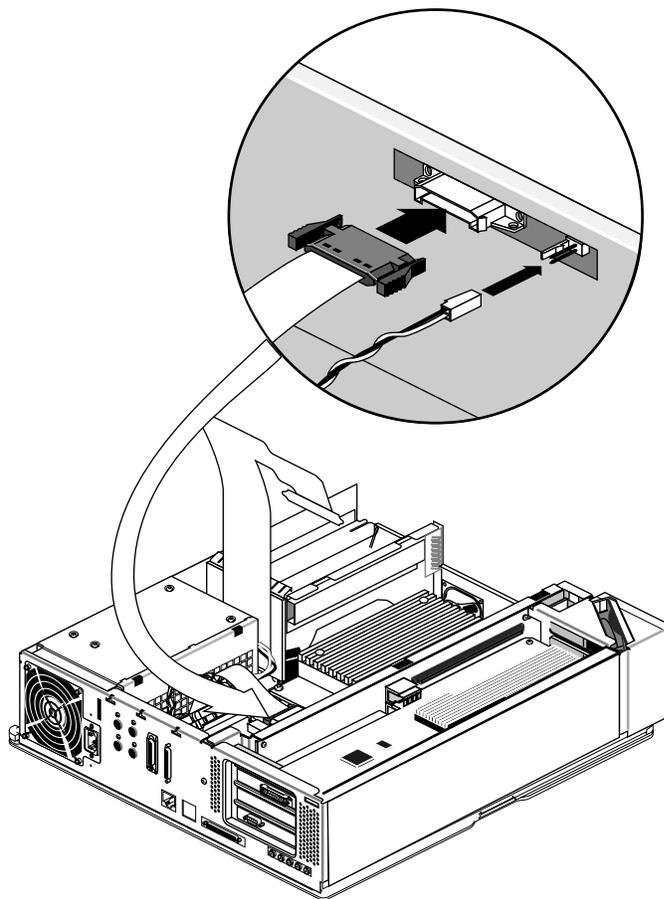

Figure 2-20 Connecting the Midplane Power Cables
- Pinch together the corrugated edges on the ribbon cable connector, and connect it to the midplane. See Figure 2-20.